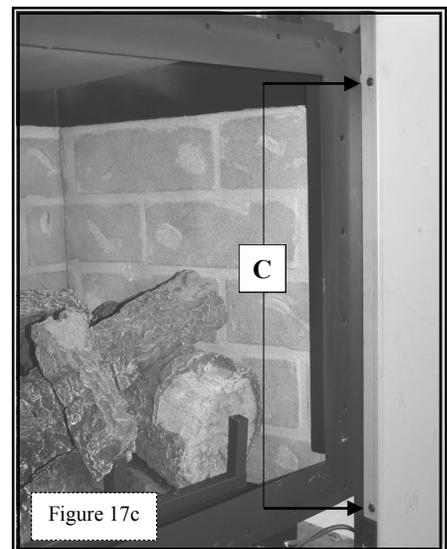

Figure 17c
2. Position tabs (lower end previously removed) on shroud into slots in insert face, aligning oblong holes on inside flange of shroud side sections to holes in mounting brackets. Secure with (4) screws (C), 2 each side. Figure 17c.
3. Position tabs (lower end previously removed) on shroud into slots in insert face, aligning oblong holes on inside flange of shroud side sections to holes in mounting brackets. Secure with (4) screws (C), 2 each side. Figure 17c.